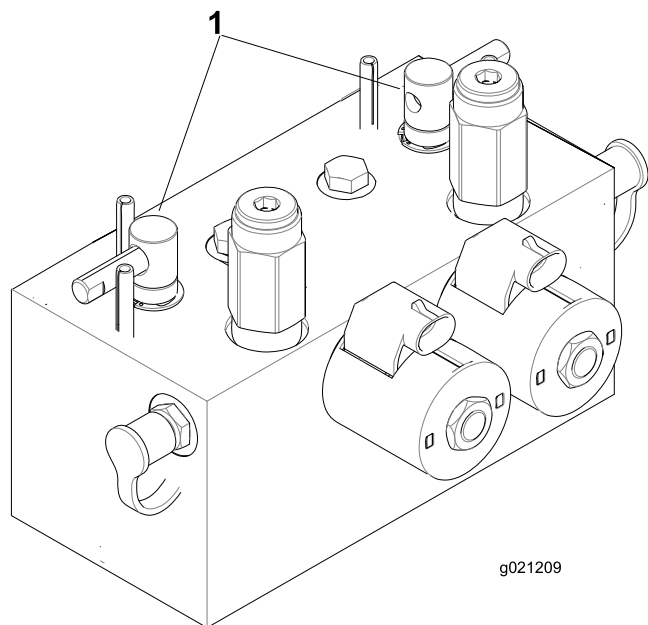

Figure 79
2. Unlock and raise the seat to expose the backlap levers (Figure 79).
5. Select either front, rear, or both backlap levers to determine which units to backlap (Figure 79).